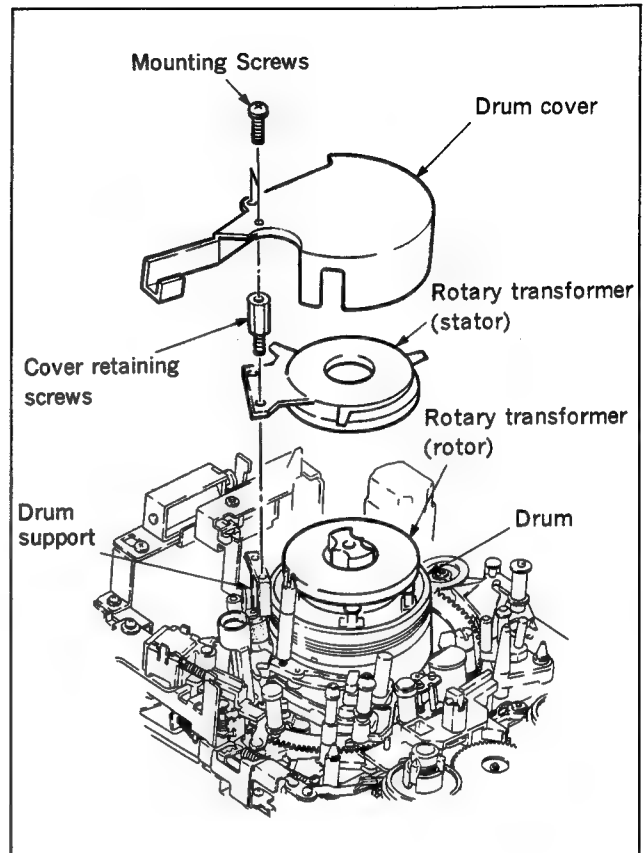

Fig. 4-2-2 Drum cover and the rotary transformer (stator)
3. Drum cover removal (Fig. 4-2-2)
4. Rotary transformer (stator) removal (Fig. 4-2-2)